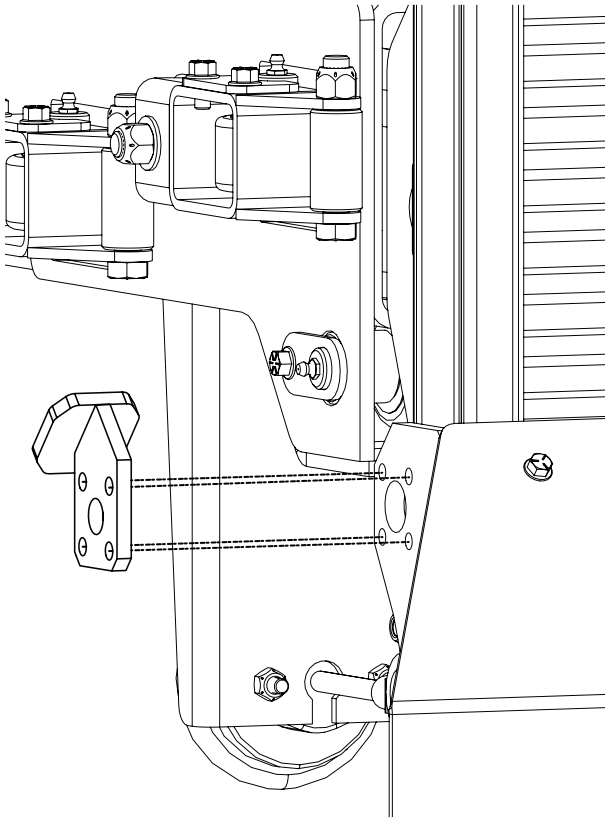

Figure 7
14. Reinstall the stop bracket (Figure 7).